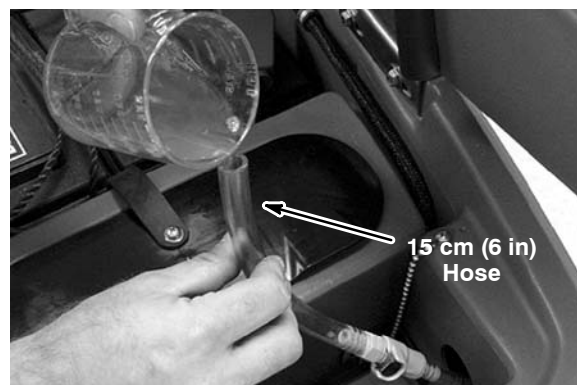

FIG. 79
4. Pour the recreational vehicle RV antifreeze into the supply hose until full (Figure 79).